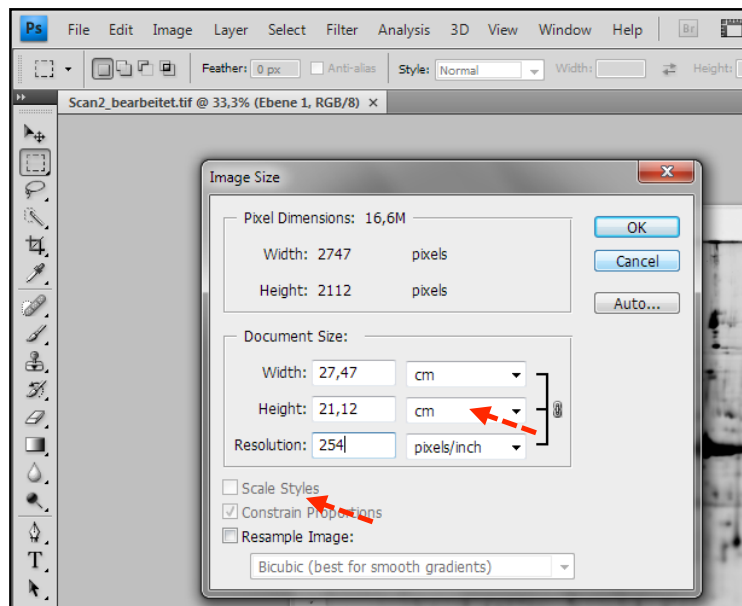

Fig. 2: Adapting the image resolution with Adobe® Photoshop® (Screen shot).
Choose in the menu “Image” the option “Image size”. The dialogue box “Image size” opens up. Change now in the field “Document Size” the “Resolution” corresponding to your original scanning parameters for scan (II) (100  $\mu\text{m}$  scanning resolution = 254 dpi respectively Pixel/inch; Fig. 2). Deactivate the option “Resample Image” (the corresponding dimensions in cm would not be adapted accordingly).